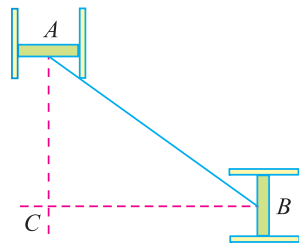

Fig. 22.6
1. The ends A and B of a link 1.5 m long are constrained to move in vertical and horizontal guides as shown in Fig. 22.6. At a given instant, when A is 0.9 m above C it was moving at 3 m/s upwards. Find the velocity of B at this instant. (Ans. 2.25 m/s)